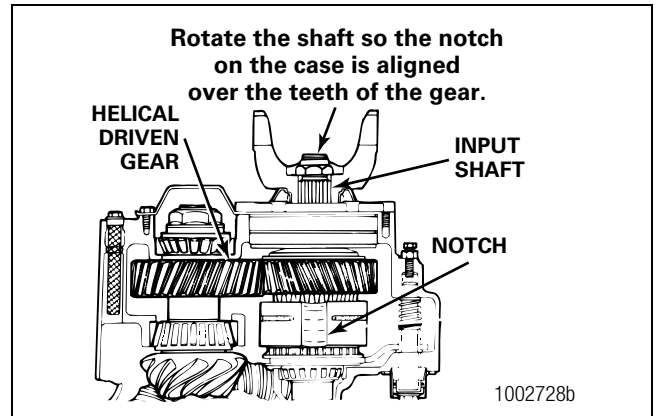
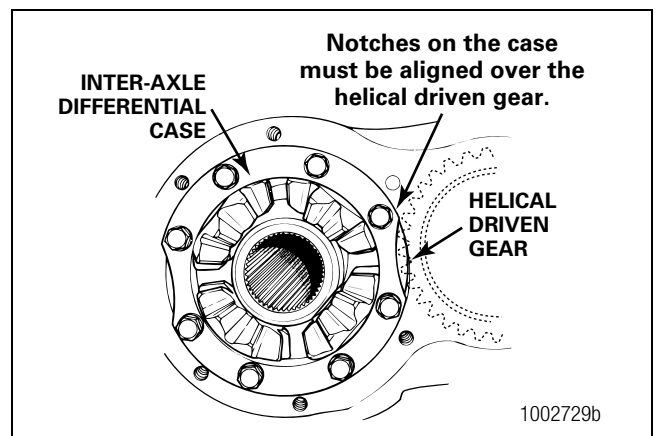

Figure 3.24
Figure 3.25
- If the input shaft assembly cannot be removed easily: The inter-axle differential case must be rotated. Rotate the input shaft until one of the notches on the case is aligned over the helical driven gear. Remove the input shaft assembly from the carrier. Figure 3.24 and Figure 3.25.